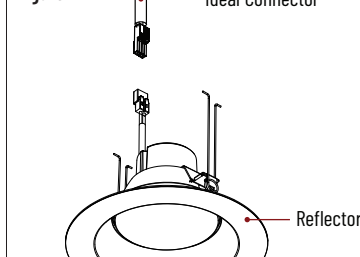

Figure 8
8. Squeeze torsion springs on reflector and insert into bracket inside the cylinder. (Figure 8)